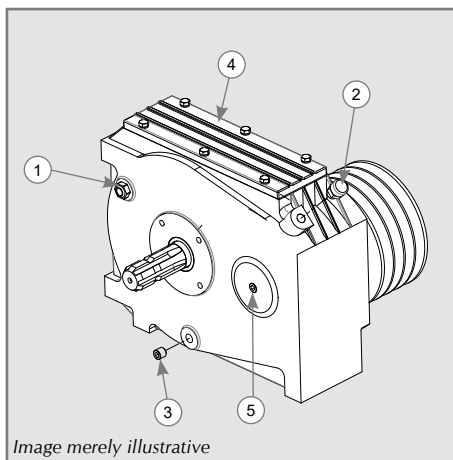

Figure 7
- Open the lid (4) and add 4 liters of W140 oil, checking the level through the viewfinder (1). If maintenance or cleaning is necessary, open the lid (4) and, if you need to remove the oil, open the drain plug (3). The screw (5) may be removed when necessary for maintenance; the gearbox has a pressure relief valve (2), as per Figure 7.